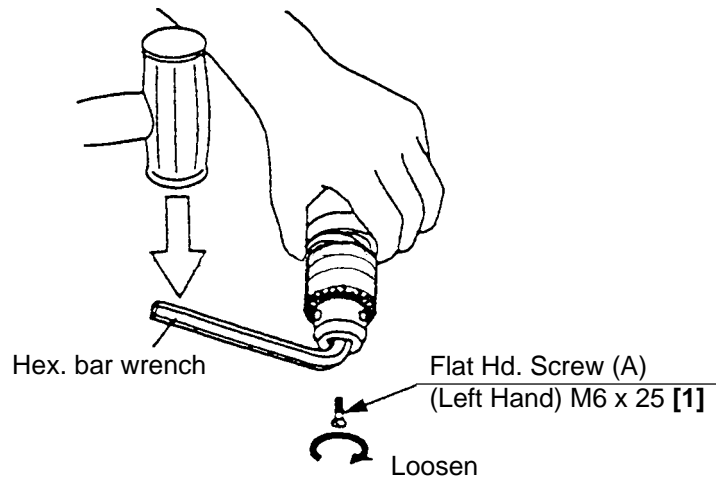

Fig. 8
- a. Hold the drill so that only the Drill Chuck 13VLRH-N (W/O Chuck Wrench) [3] rests firmly and squarely on the edge of a solid bench. Instal the hex. bar wrench into the drill chuck. Turn the drill chuck until the wrench is at about a 30° angle to the bench top and strike the wrench sharply with a hammer so the drill chuck turns in the counterclockwise direction. (Fig. 8)